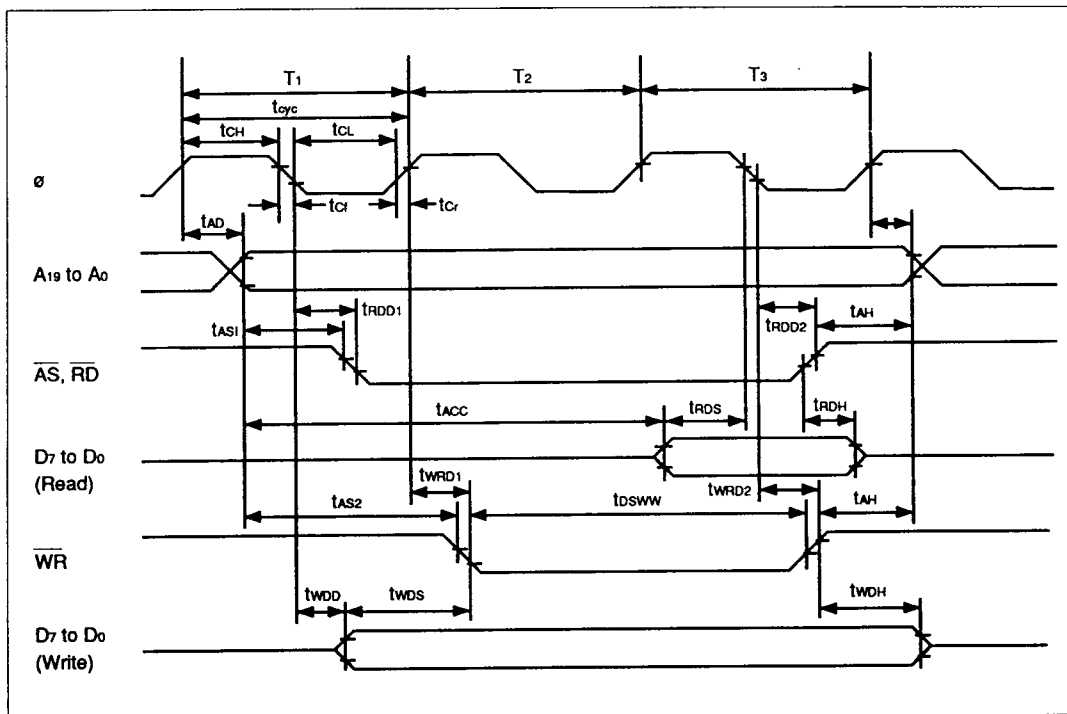

Figure 18-4 Basic Bus Cycle (without Wait States) in Expanded Modes
18.3.1 Bus timing	Figures 18-4 and 18-5